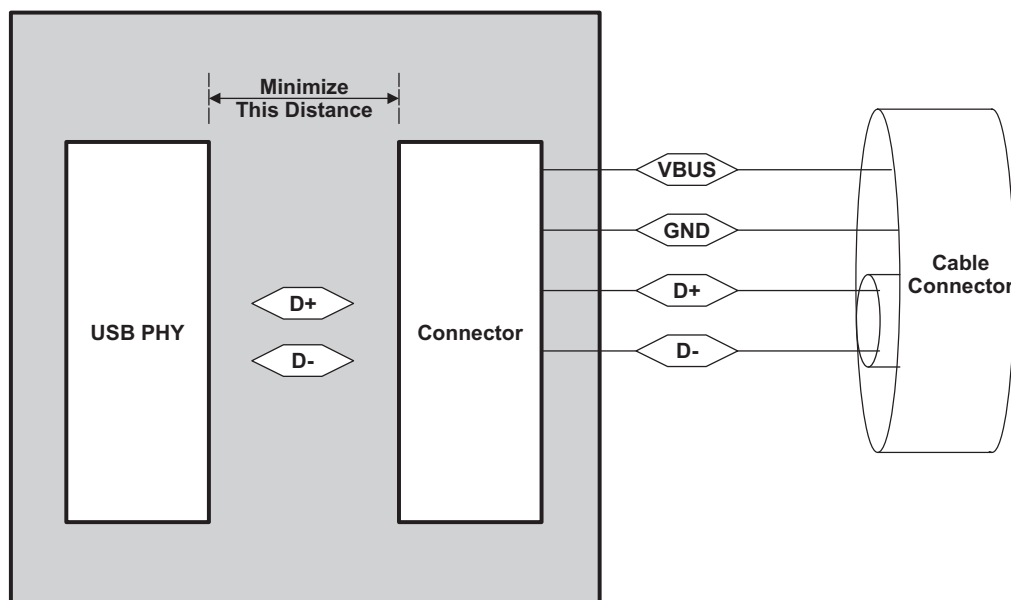

Figure 6. USB PHY Connector and Cable Connector
- DP/DM traces should always be matched lengths and must be no more than 4 inches in length; otherwise, the eye opening may be degraded (see Figure 6).